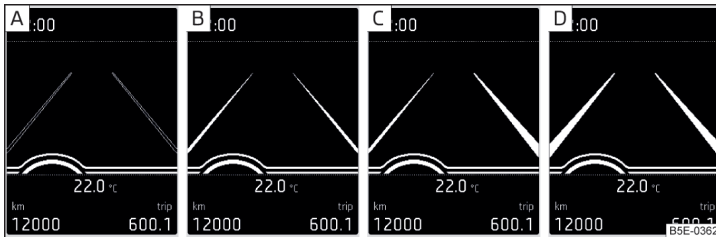
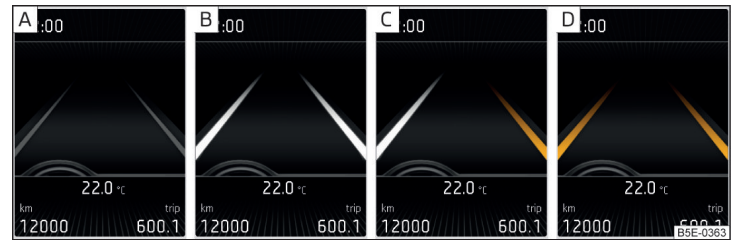

Fig. 291 Monochromatic display of the instrument cluster: Examples of system indications
Fig. 292 Colour display of the instrument cluster: Examples of system indications
**System displays** » Fig. 291 and » Fig. 292